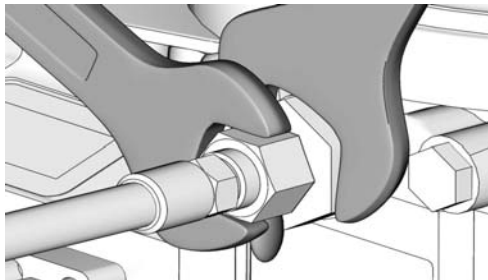

FIG. 1
To relieve pressure in the system, use two wrenches working in opposite directions on pump outlet fitting to **slowly loosen fitting only** until fitting is loose and no more lubricant or air is leaking from fitting as shown in FIG. 1.
3. Hand tighten pump and then torque to 50 in.-lbs (5.6 N•m) (FIG. 1).